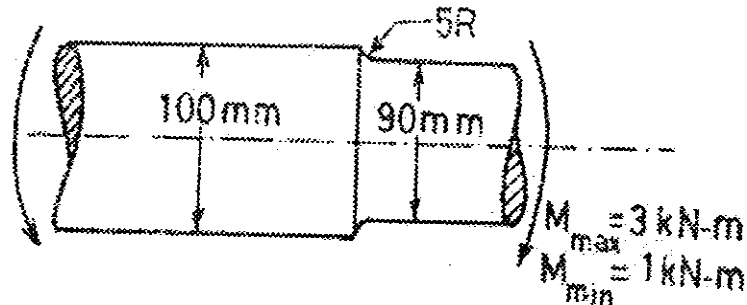

Figure-2
- (b) A beam of circular section reduces in dia. from 100 mm to 90 mm over a transition radius of 5.0 mm shown in figure-2. The beam is subjected to a bending moment which fluctuates between M_{min} 1 kN-m to $M_{max} = 3$ kN-m. If beam is made of ground finish annealed steel with following properties $S_{ut} = 480$ MPa, $S'_e = 210$ MPa, BHN=190. Show is the beam is safe or not.